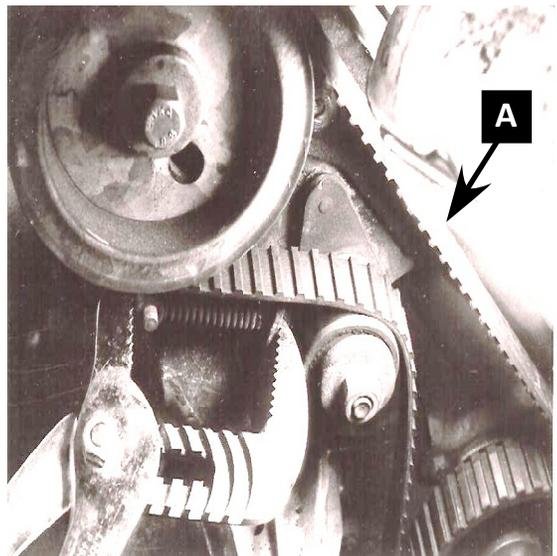

Figure 19. Squeeze the tensioning spring . . .
**12.** With the belt tensioner nut loose, to remove the old belt, pull or push on the belt at **A** (**Figure 19**), then insert a restraining pin (**Figure 20**) or nail to keep spring compressed. Slide old belt off. (Sometimes it helps to use a large waterpump pliers to squeeze the spring and insert a pin.)
**14. Most important step!** Slip the new belt on with the first single line mark of the new belt aligned on the camshaft notch of **Figure 10**. Use a spring clamp to hold the belt onto the overhead camshaft pulley (**Figure 21**). Slide the belt over the tensioner roller and under the crankshaft pulley boss. Make sure there is no play on the belt between the camshaft and crankshaft. Grab the new belt at A, **Figure 19**, and pull up on it to work it over the auxiliary shaft pulley. Make sure the second single line mark aligns to the dot on the auxiliary shaft pulley per **Figure 11**. Double check that the precise alignment of **Figure 17** still holds. If it doesn't, slip belt off at the auxiliary shaft pulley. This time, move the crankshaft pulley boss clockwise a notch or two (while adjusting belt) so that when you pull up on the timing belt to fit it over the auxiliary shaft pulley, the u-shaped notch of the crankshaft rear sprocket plate will move counterclockwise to align with the 4-mm-long ridge. Fuss with it until you get it right!